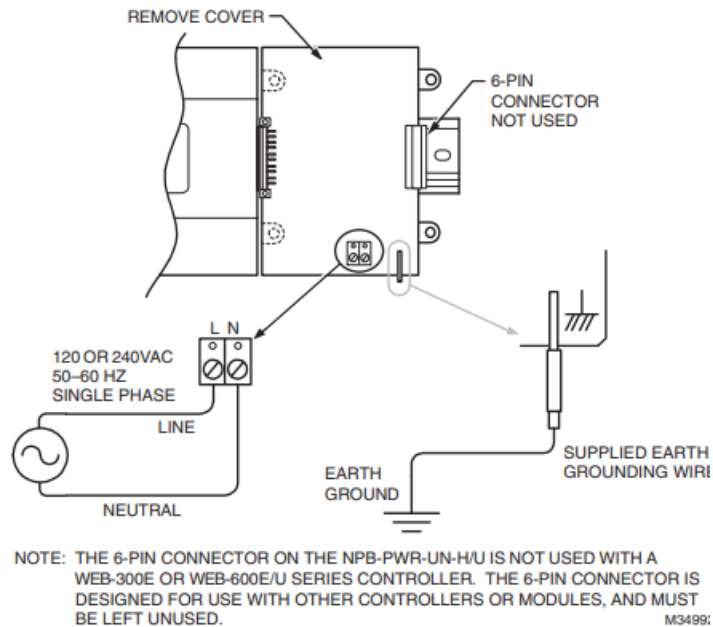

Fig. 5. NPB-PWR-UN-H/U module wiring connections.
3. Connect the supplied earth grounding wire to a nearby grounding point. See Fig. 5.